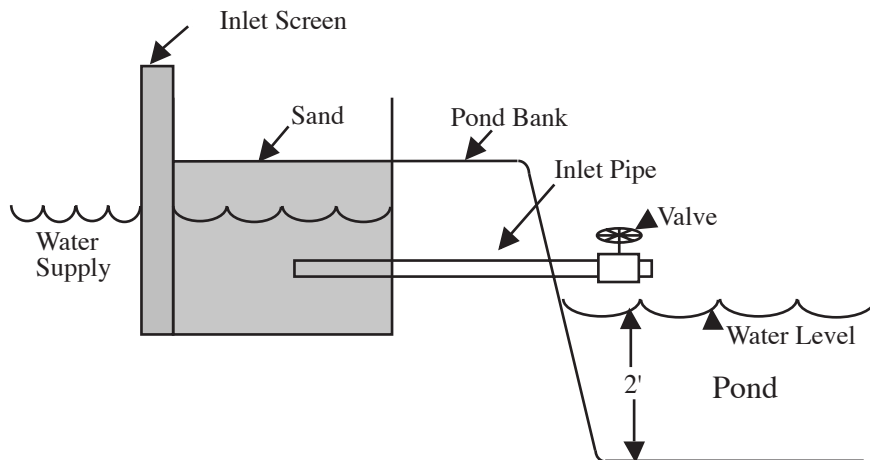
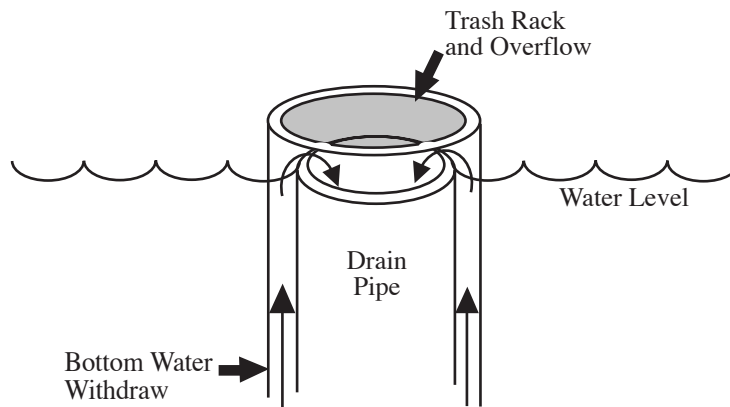

Figure 3
Figure 4
5. Pond inlets should be constructed so that inflows can be controlled and filtered. The filter prevents unwanted fish species from entering the pond (Figure 3), and a good outlet design prevents fish loss (Figure 4).